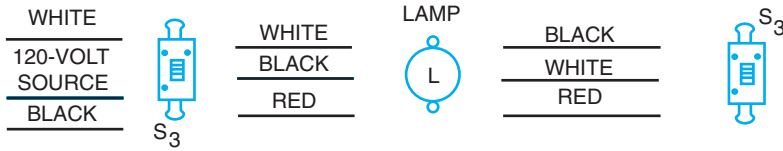

Figure 17-14 Wiring diagram.
6. Complete the connections in Figure 17-14 so that the ceiling outlet may be controlled from either three-way switch.